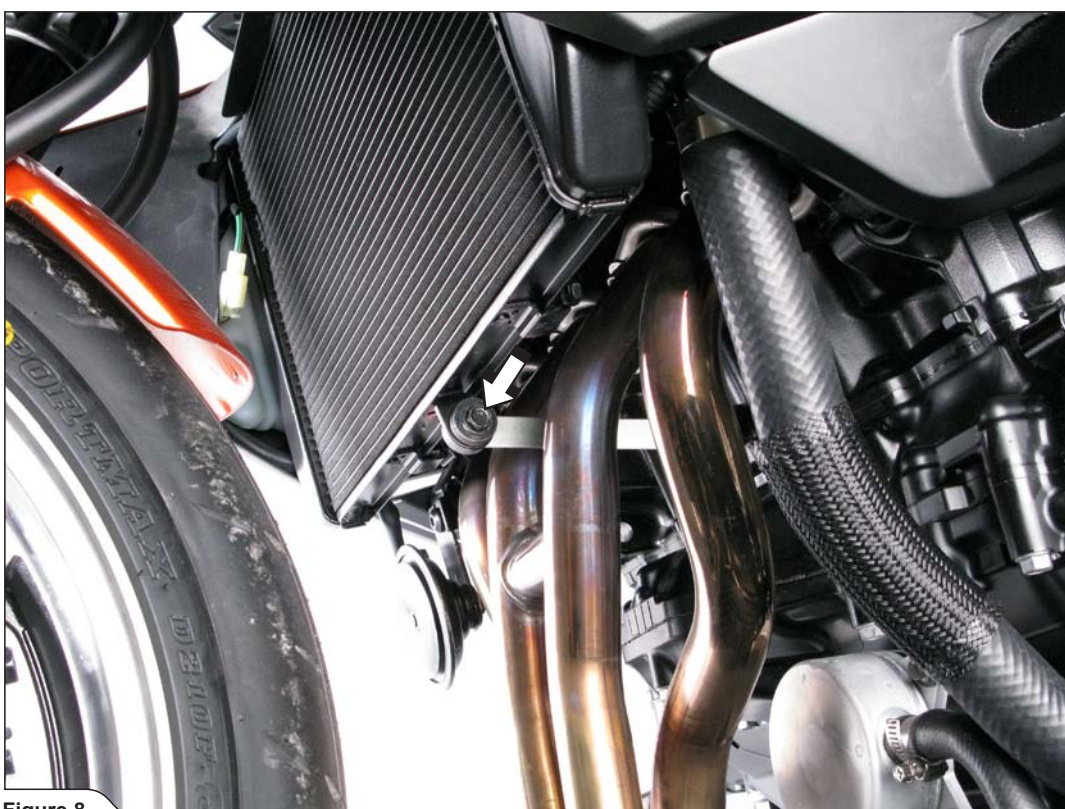

Figure 8
7. Unscrew the radiators' bracket and partially shift the radiator (Figure 8).